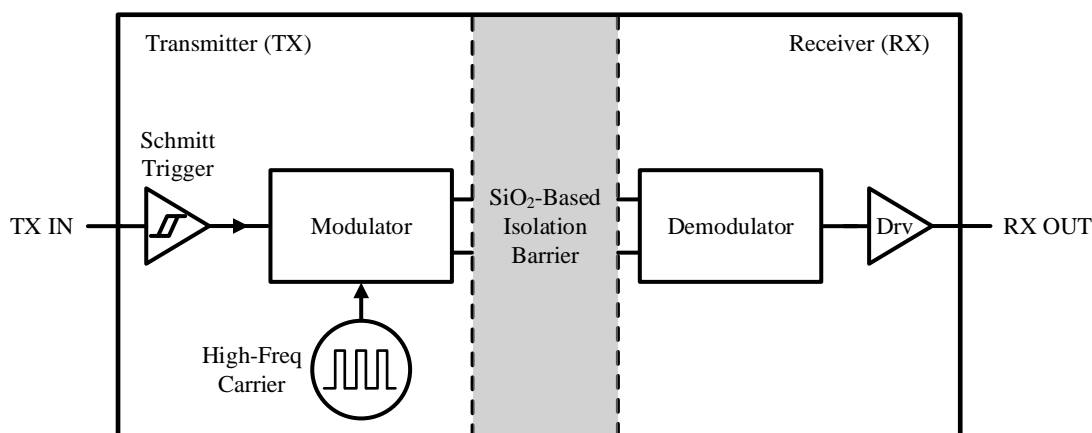
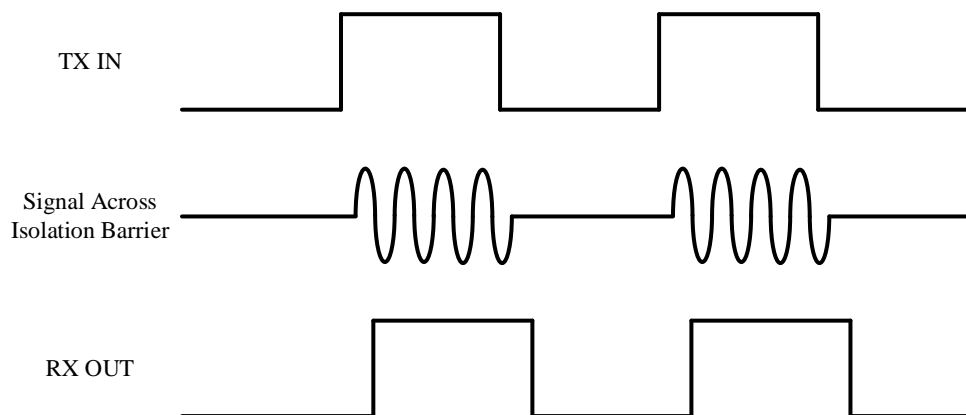

Figure 8-2 Block Diagram of an Isolation Channel
Figure 8-3 Conceptual Operation Waveforms of OOK Modulation Scheme
The CA-IS1306x devices utilize a simple on-off keying (OOK) modulation scheme to transmit the digital bitstream across the SiO₂-based isolation barrier which supports up to 5-kV_{RMS} galvanic isolation between high- and low-voltage domain. The block diagram of an isolation channel is shown in Figure 8-2. As shown in Figure 8-3, the transmitter (TX) modulates the digital bitstream with a high-frequency carrier when the signal is HIGH while sends no signal when the signal is LOW. The receiver (RX) demodulates the signal across the isolation barrier and reproduces the digital bitstream faithfully. The isolation channel adopts fully differential capacitive-coupled structure which is insensitive to common-mode transient noises, thus the CMTI performance can be maximized. This structure and related circuitry also provide low emissions and strong anti-interference capability from magnetic changes.